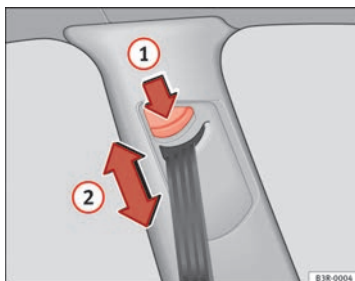

Fig. 16 Belt height adjuster
- Press button ⇒ Fig. 16 ① to adjust the belt height.
- Take hold of the top guide fitting and slide it up or down so that the shoulder part of the seat belt is positioned roughly midway over the shoulder, although **it must never rest against the neck** ⇒ Fig. 16 ② ⇒ ⚠ in Seat belt position on page 24.